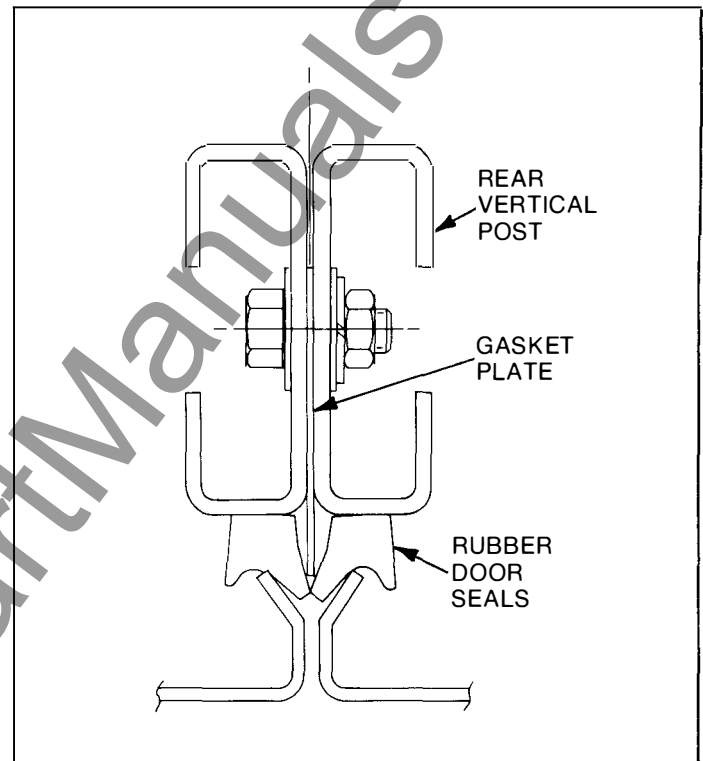

Fig. 4-21. Installation of door seals
12. INSTALL DOOR SEALS—The shipping split assembly is completed by installation of the seals for the front and rear doors. Refer to Fig. 4-21. The rubber door seals should be secured with cement (3M No. EC870) to the front and rear vertical posts. The gasket plate extends out from the enclosure to stiffen and maintain the seals in their proper position against the doors.